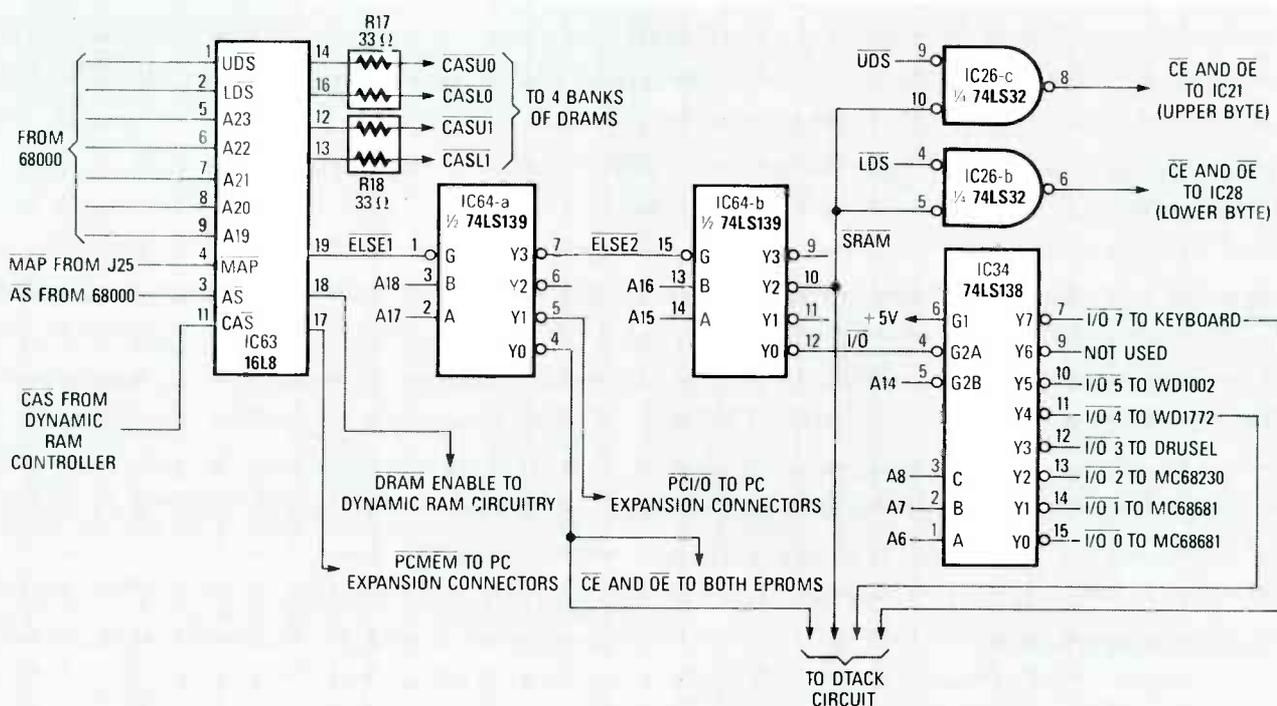

FIG. 3—ALL ADDRESS DECODING is accomplished by three IC's: each IC (or section thereof) further narrows the range of addresses decoded by its predecessor.
As described way back in the first part of this series, the address decoder continuously monitors the high order bits of the address bus and signals the RAM, the ROM, and the I/O interfaces whenever an address comes along that is intended for them. The PT-68K's address decoder consists of three IC's, as shown in Fig. 3.
2. If A16 and A15 are 10, which occurs for addresses \$FF0000–\$FF7FFF, IC64-b asserts  $\overline{SRAM}$ , which drives the static RAM and the clock/calendar via IC26-b and IC26-c. (The RAM circuit was shown in Fig. 3 in the December installment.) Note that  $\overline{UDS}$  and  $\overline{LDS}$  are combined with  $\overline{SRAM}$  to enable the upper byte (IC21), the lower byte (IC28), or both. For example, when both  $\overline{UDS}$  and  $\overline{SRAM}$  are asserted, the  $\overline{CE}$  and  $\overline{OE}$  pins of IC21 will be asserted, and the IC will be enabled.
- The parts-placement diagram (Fig. 3 in the November installment) was printed upside down, so references in the text will be rotated 180° from the true position. However, all locations on the board are labeled correctly.